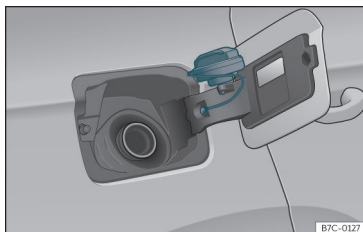

Fig. 197 Fuel tank flap with tank cap attached.
- Place it in the space on the hinge of the open flap»» **Fig. 197**.